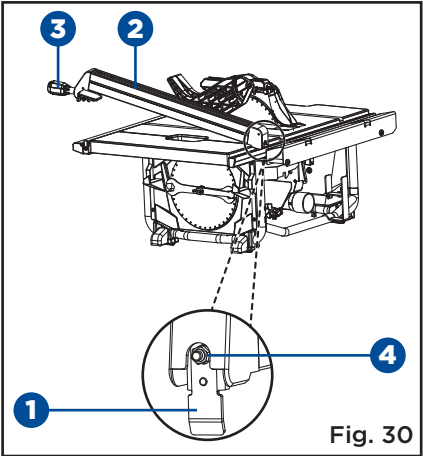

Fig. 30
USING THE RIP FENCE (Fig. 30)
- Slide the mitre gauge in the mitre gauge groove (1).
- Loosen the locking handle (2).
- Retighten the locking handle (2).
NOTE: The rip fence must be secure when the locking handle is engaged. To increase the grip of the rip fence on the rear lip of the table, tighten the clamp screw (4) on the rear of the rip fence by turning it clockwise. (Fig. 30)